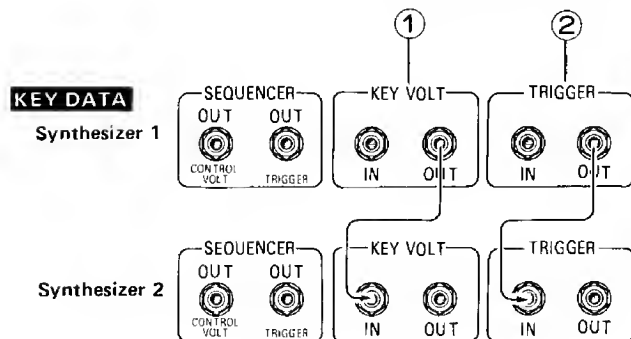

Fig. 1
- Fig. 1 shows the connections for the case of keyboard performance of Synthesizer 1, with control effected by Synthesizers 1 and 2.
③ SEQUENCER OUT CONTROL VOLT